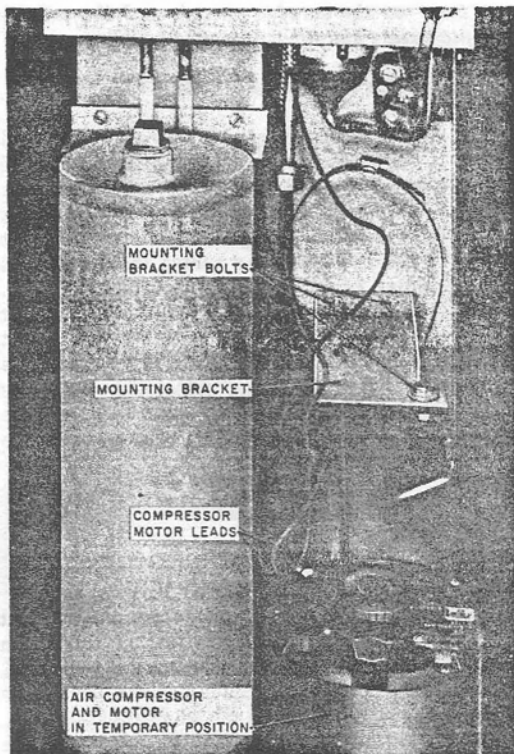

Fig. 7—Interior of B Air Dryer Cabinet Showing Air Compressor Temporarily Removed from its Mounting Bracket
- (3) Remove nut bolt and washer from base of mounting bracket (see Fig. 7).
- (4) Remove two nuts and washers from base of mounting bracket (see Fig. 7).
- (5) Remove mounting bracket (see Fig. 7).